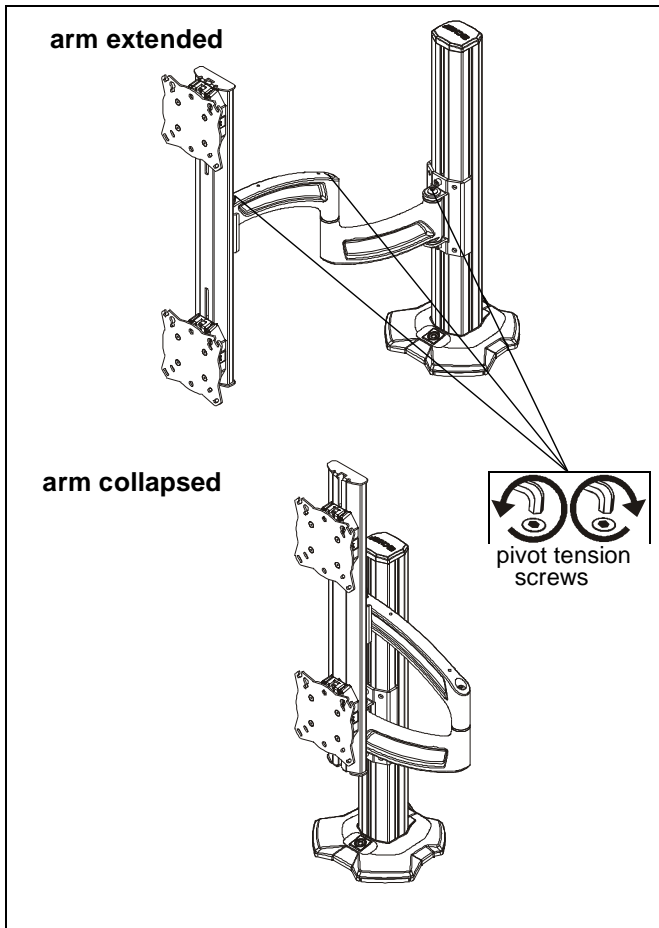

Figure 14
1. Extend or collapse column arm (X) as desired. (See Figure 14)
2. (Optional) Loosen or tighten column arm pivot tension screws as desired to increase or decrease pivot tension. (See Figure 14)